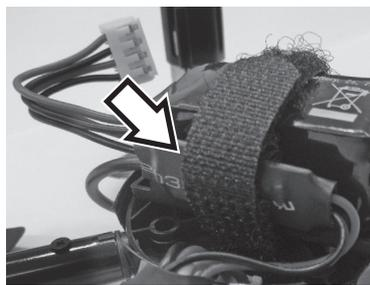
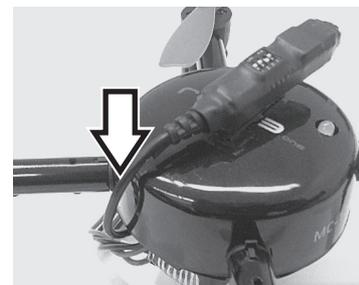

Fig. 1
Fig. 2
3. Connect the male connector (3) of the camera to the female input port on the "RC EYE One S".
4. Put the battery in place as usual. Secure the battery including, power board (2) and camera cables with the Velcro® strap (see Fig. 1). **Attention!** It is very important to ensure the cables cannot be caught and entangled while the rotors are in motion. Do not establish the power connection yet!
7. Stick the double sided tape along the middle axis on the canopy top (The camera lens (7) shall eventually sit between the two red propellers). Peel off the remaining protective foil of the double sided tape.
8. Affix the camera to the tape, with the camera lens (7) facing the red propellers ("facing front"). The dip switches (5) must face up so that you are able to select the channels.
9. Make sure to guide the cable along the middle of the canopy to prevent it from getting entangled during operation of the "RC EYE One S" (see Fig. 2).